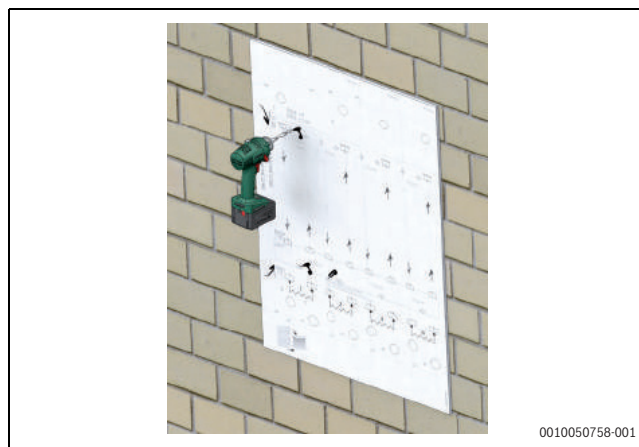
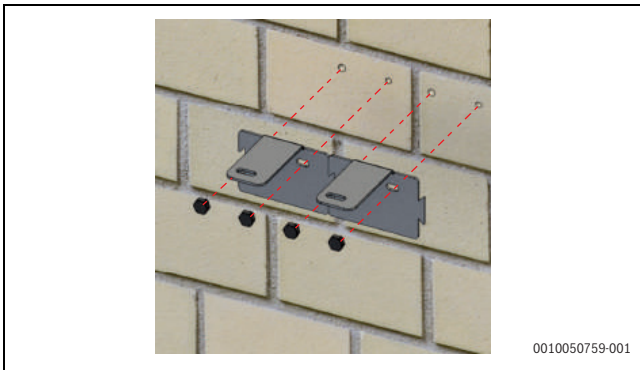

Fig. 13 Drill the wall
Fig. 14 Fix the wall brackets
3. Place the drilling jig on the wall in the position you would install the module. After having fixed the drilling jig, drill the wall in correspondence of the right holes (→ Fig. 13). Then remove the drilling jig and fix the wall brackets on the wall through the 12 mm anchor screw (not included), (→ Fig. 14).